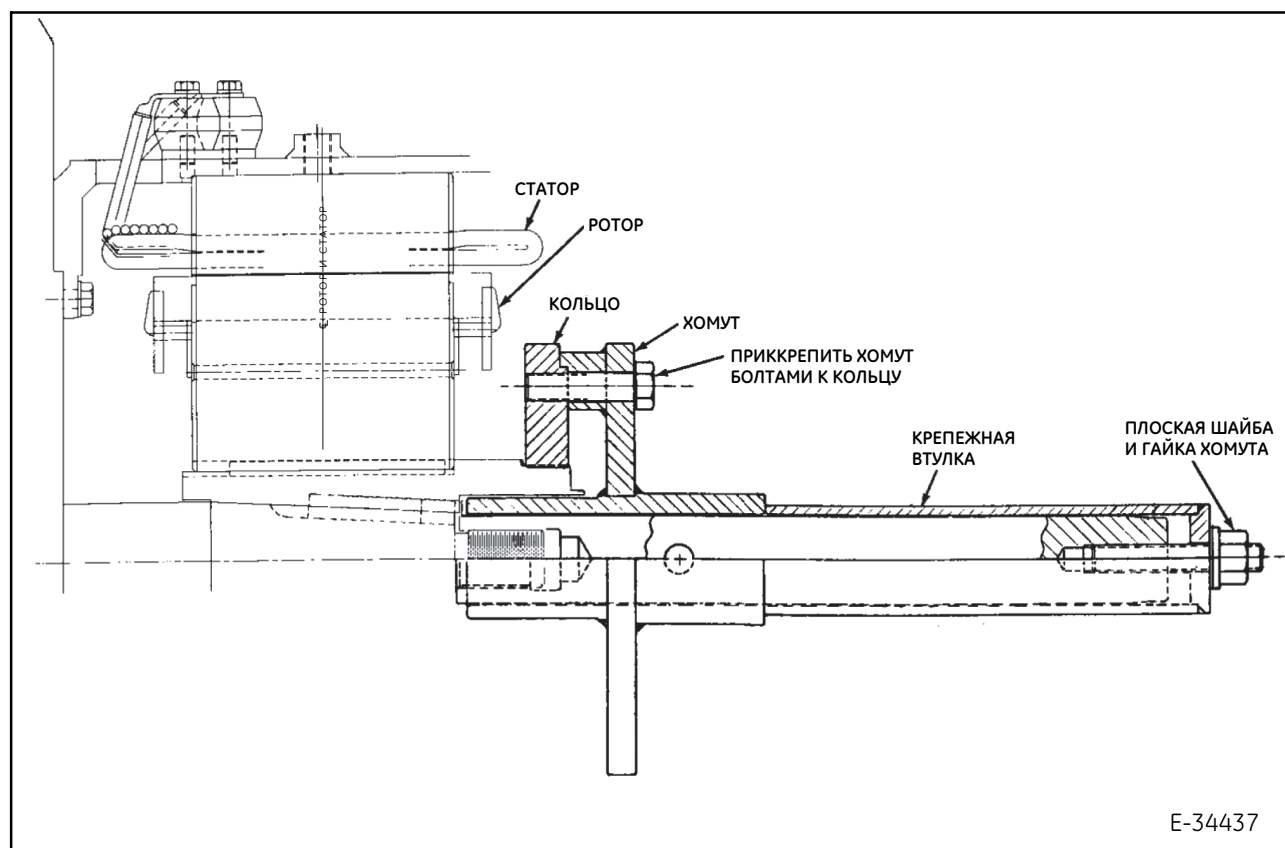

Figure 5. Rotor Mounted on Compressor Shaft
11. Mount ring on rotor (Figure 5) and slide collar over shaft extension. Bolt collar to ring using three bolts.
13. Install the mounting sleeve over the shaft extension and place the flat washer and collar nut on the stud at the end of the shaft extension (Figure 5).
15. Remove the collar nut, flat washer, mounting sleeve, collar and shaft extension. Leave the ring fixture on the rotor (Figure 5).